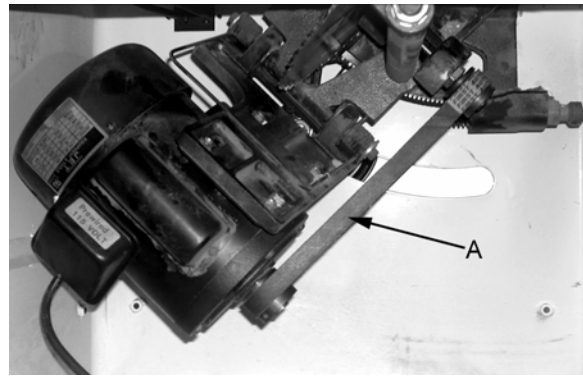

Figure 51
3. Take the tension off of the belt (A, Fig. 51) by lifting up on the motor.